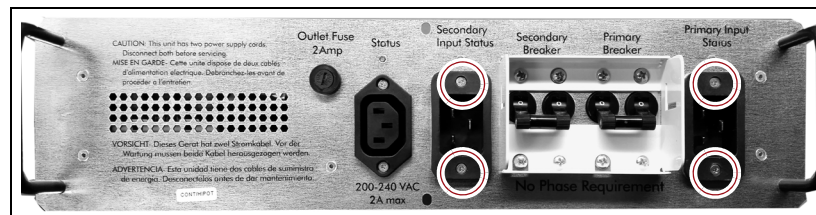

Figure 238 Remove the screws securing the input plugs to the AC power module.
6. Using a #2 Phillips screwdriver, remove the two screws securing each of the two input plugs to the dual AC module (circled in Figure 238).